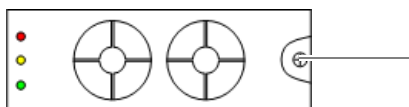

Figure 11.13 Rectifier module fastening screw
1. Loosen the fastening screw of the rectifier module using a size 2 cross-head screwdriver, refer to Figure 11.13.